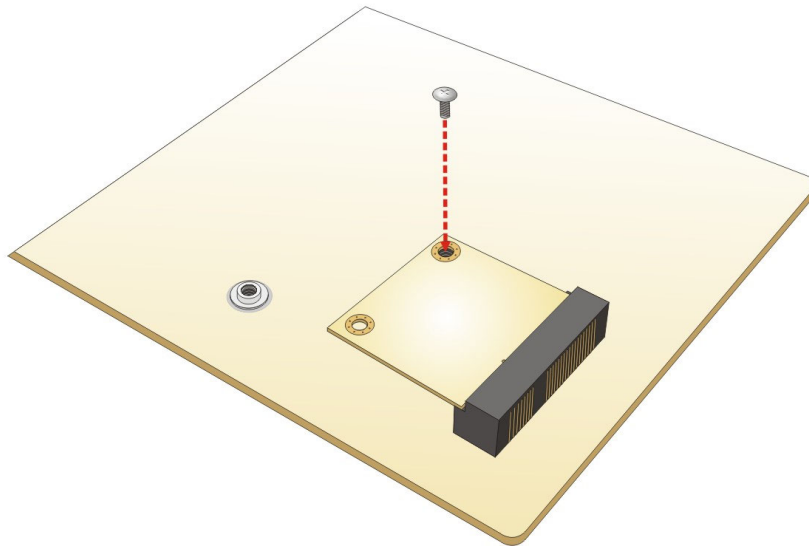

Figure 4-13: Securing the Half-size PCIe Mini Card
Step 6: **Secure the half-size PCIe Mini card.** Secure the half-size PCIe Mini card with the retention screw previously removed (**Figure 4-13**).